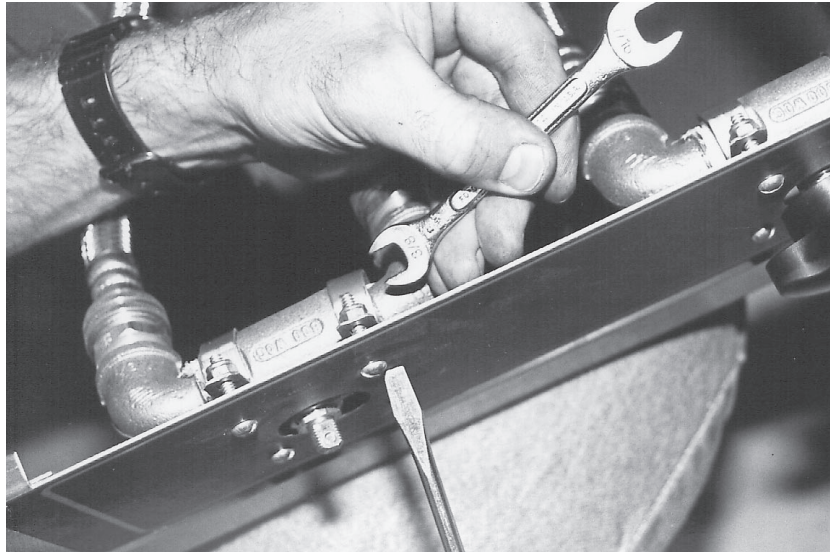

Fig. 14
With a flat blade screwdriver and a $\frac{5}{16}$ " deep socket or wrench, remove (4) screws securing the water fittings to the control panel. (Fig. 14)